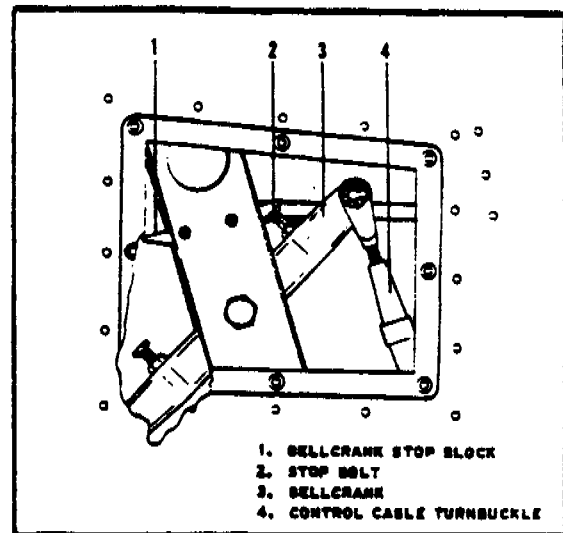

FIGURE 5-4. AILERON ADJUSTING POINTS
c. Place a bubble protractor on the aileron, perpendicular to the hinge line, and adjust the bellcrank stop bolts to specific aileron travel from neutral. (Refer to Table V-I and Figure 5-4.)